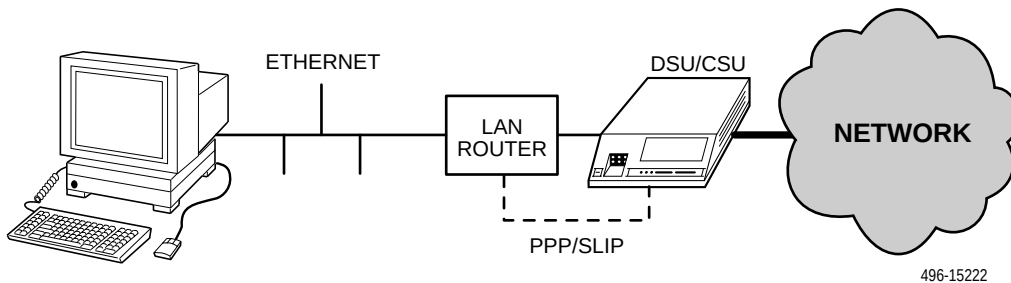

Figure 2-5. Connection through a Router
- Connecting the COM port to a network device (e.g., a router) (Figure 2-5, Connection through a Router).